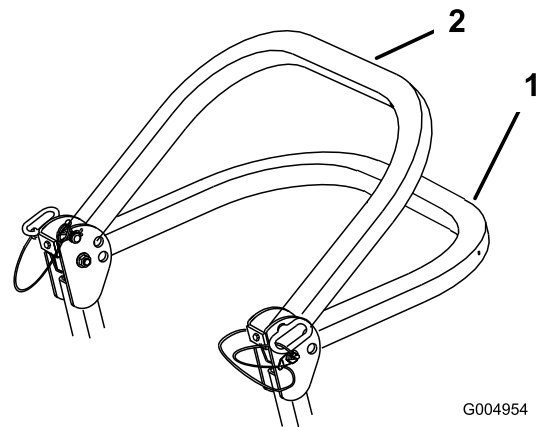

Figure 8
2. Lower the roll bar to the down position. There are 2 down positions. See Figure 8.